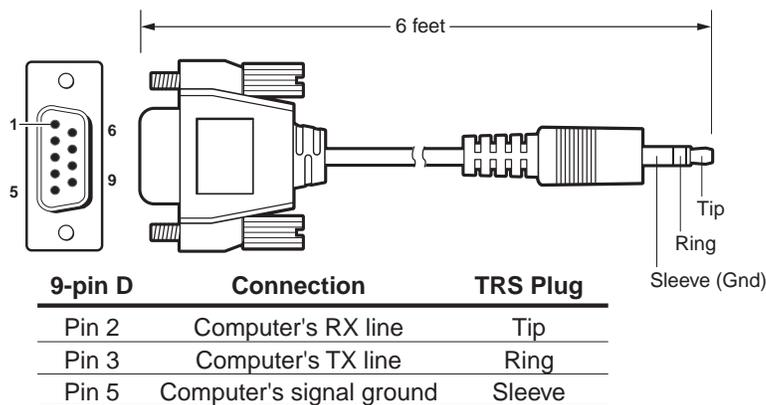

Figure 3-2 — Front 2.5 mm port configuration cable (part # 70-335-01)
- ① **Configuration port** — This 2.5 mm port (jack) can be used to configure the PVS 305SA during setup via RS-232. Use the optional 2.5 mm configuration cable, part # 70-335-01 (see figure 3-2), for connection to your PC's serial port.
1. Press and hold input selection buttons 1 and 4 simultaneously for 4 seconds (see figure 3-2). All the input LEDs light.